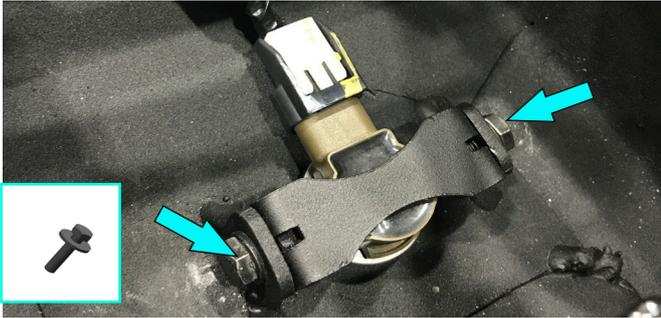

Fig.48
48. Install parking sensors in bumper body and fix them using parking sensor holding brackets, bolts M6x16, washers 6 (item 37, C1, H). Fix wiring on the bumper using cable ties (item U) (fig.48).